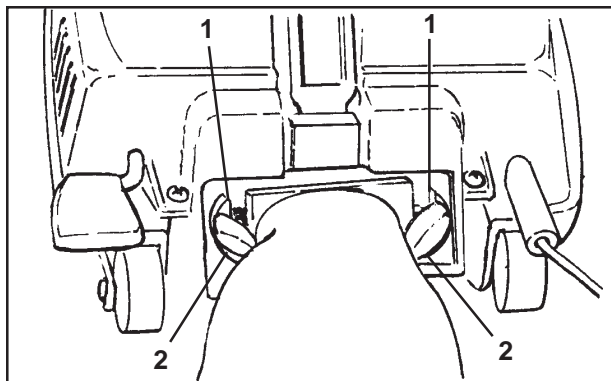

Figure 3
1. Loosen the knobs (see figure 3, #1) at the rear opening of the housing.
2. Slide the bag adaptor opening (see figure 3, #2) up and around the knobs.